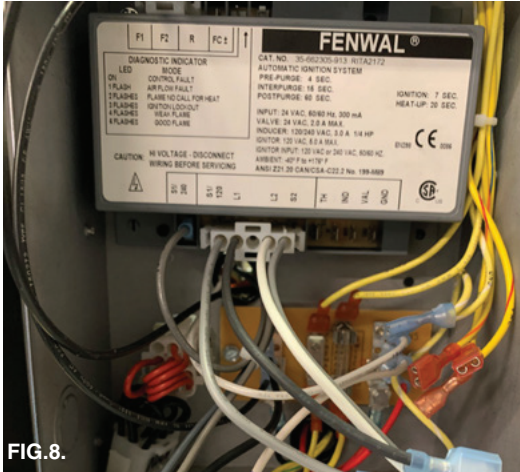

FIG. 8.
7. Connect 240VAC gray cable with ¼" female terminal to ¼" tab at the lower left side of ICM as shown in Fig. 8.